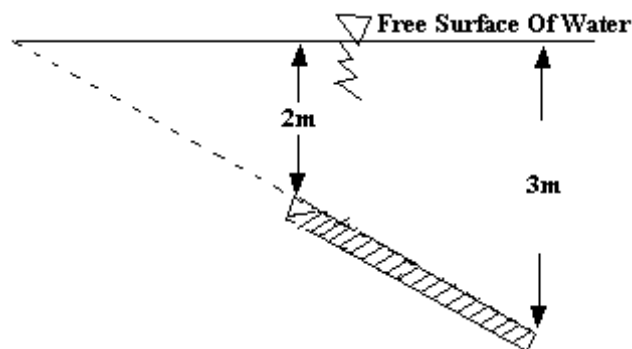

Figure 2c
- (c) A circular plate $2.5m$ in diameter is submerged in water as shown in figure 2c. Its greatest and least depths below free surface of water are $3m$ and $2m$ respectively. Find